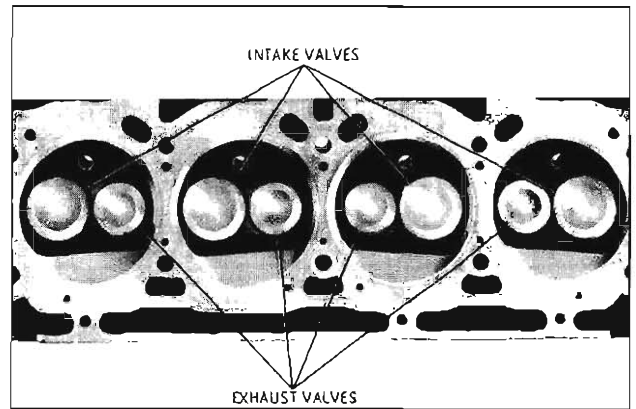

Fig. 3-416 Valve Location
NOTE: The valve order in each cylinder head has been changed to accommodate the new exhaust manifold. This is shown in Fig. 3-416.
5. Remove valves. Keep valves separated so they can be installed in their original locations. (Fig. 3-416)